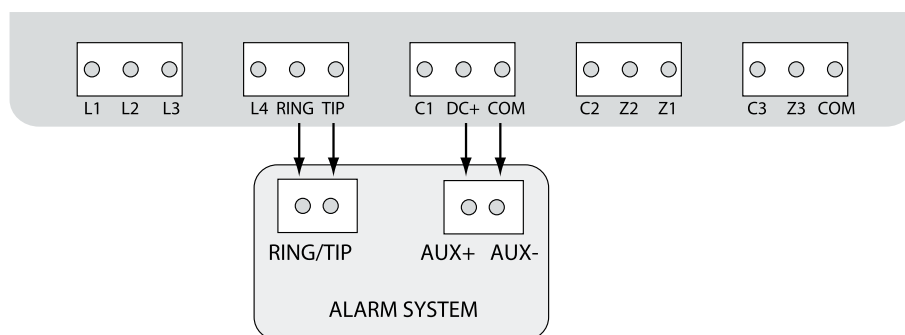

Figure 5
1. Connect the circuit as indicated in Figure 5 – connect telephone contacts of the alarm system RING/TIP to RING/TIP contacts of the communicator.